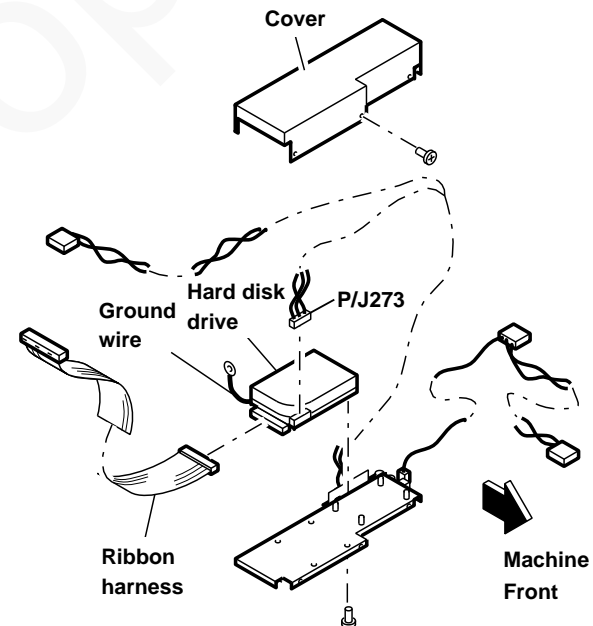

Figure 1. Mounting the hard disk
3. Mount the hard disk drive in the assembly (Figure 1).